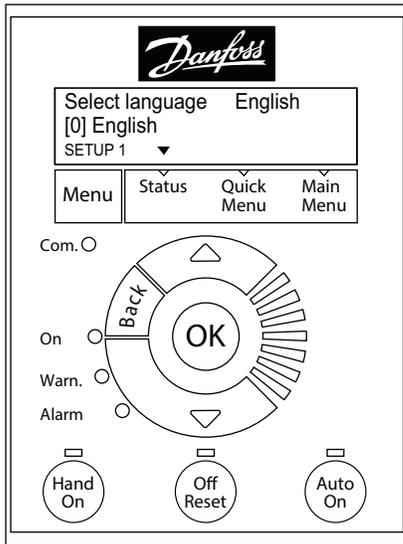

Fig. 70 — Keypad with Power Up Screen Displayed
1. At power-up: At the first power-up the LCD displays the Select Language screen. The default setting is English. To change the language, press the **OK** key and use the ▲ (Up arrow) and ▼ (Down arrow) keys to scroll to the desired language. Then press **OK**. See Fig. 70.